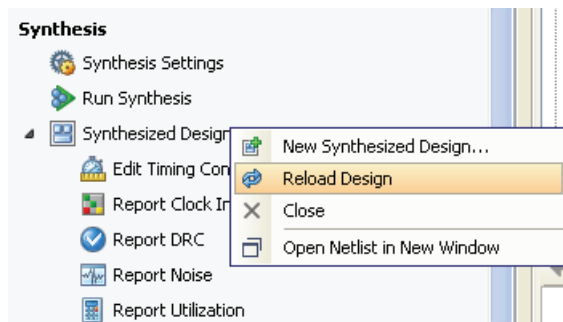

Figure 2-16: Reload Design
- **Reload the Design:** Use the **Reload Design** command, in the Flow Navigator popup menu as shown in Figure 2-16, to revert any changes and reload the original netlist, constraints, and target part of the design.